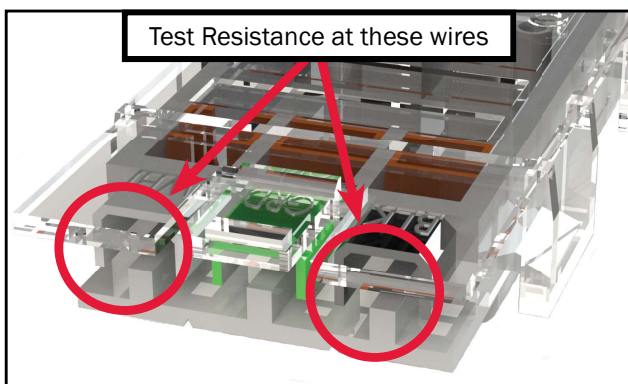

Figure 37
- Resistance should be between approximately 11-13 ohms. If there are less than 11 ohms of resistance, the electric element can cause the coach-side breaker to trip (reference Figure 37).